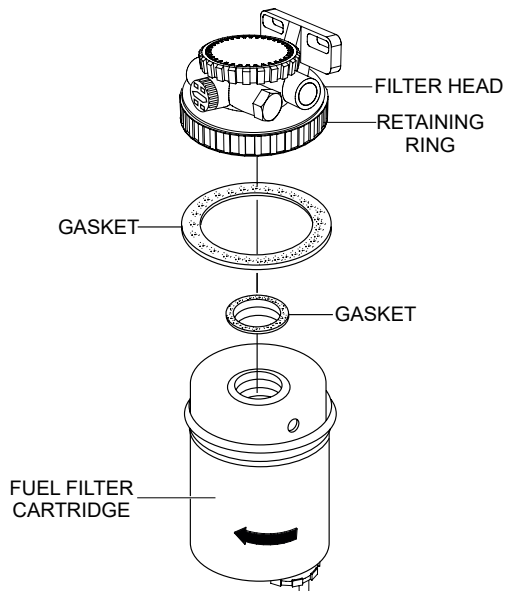

Figure 68. Fuel Filter Cartridge Replacement
1. Use a filter wrench to remove the fuel filter cup (Figure 68) from the fuel filter head.